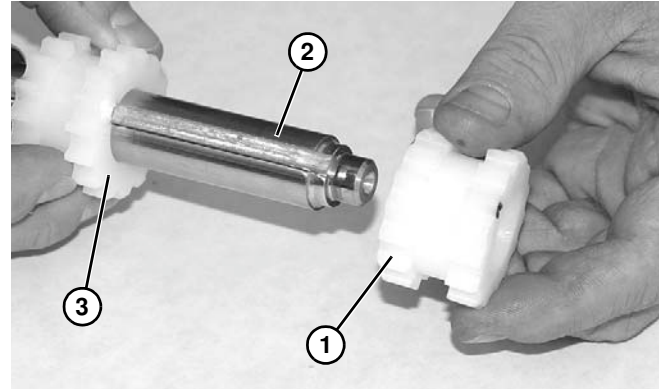

Figure 72
2. Install required quantity of free moving sprockets (**Figure 72, item 1**) onto drive pulley (**Figure 72, item 2**).
3. Install fixed sprocket (**Figure 72, item 3**) at the same location it was removed, making sure it engages the belt. Tighten set screw.